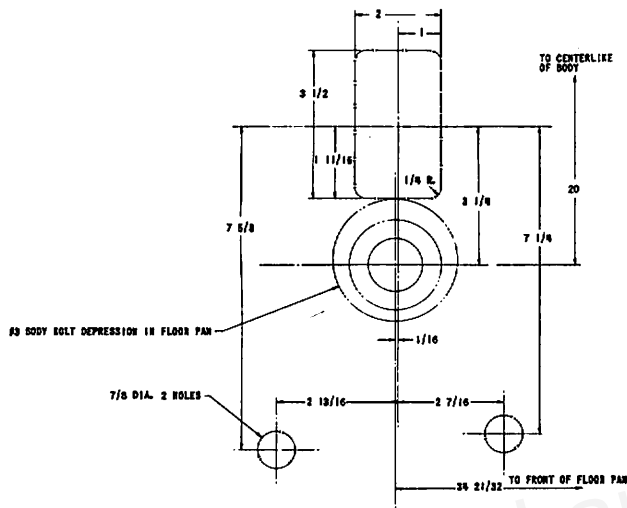

Figure 10
3. Insert heater and using holes in heater as a guide drill six holes into floor pan (.185 diameter—No. 13 drill). Fasten heater, seals and ground wire securely with six  $\frac{1}{4}$ -14 rd. hd. screws, as shown in figure 10.